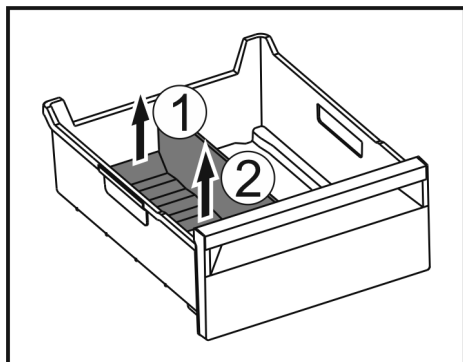

Fig. 141
- Lift the rear part of the ice compartment divider. Fig. 141 (1)
- Remove the ice compartment divider upwards. Fig. 141 (2)